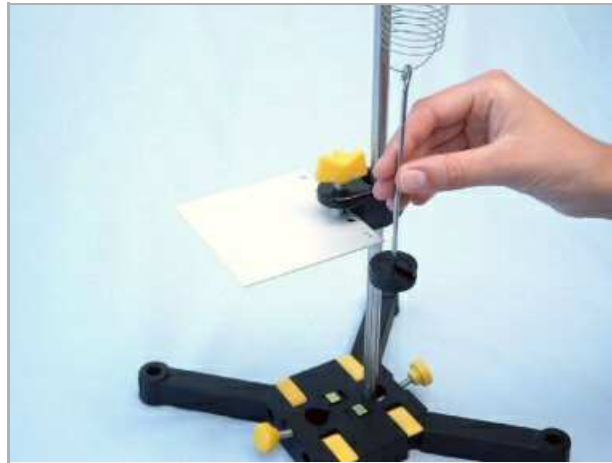

Fig. 13
- Now hang the weight holder ( $m = 10\text{ g}$ ) on the spring and let it "fall". Observe the process (Fig. 13)!